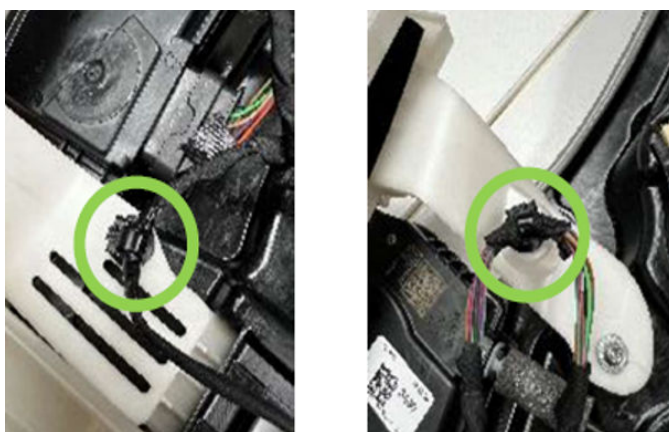

Fig. 40
44. Connect the two wire harness clips on both sides of the latch Fig. 40.